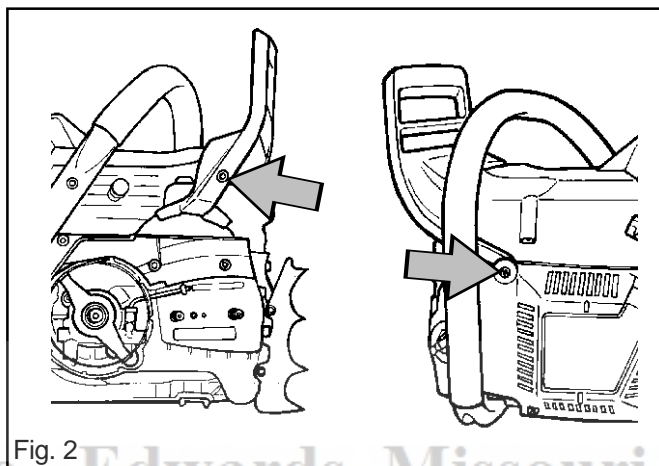

Fig. 2
3. Remove the hand guard, two screws. Note the sleeve on the starter side. See fig. 2.
7. Fit the hand guard with the sleeve on the stator side. See fig. 2.